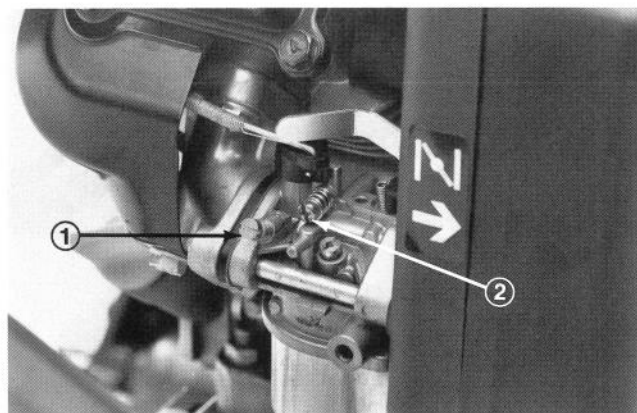

Figure 37
1. Pilot Screw (Fig. 37)- Close screw by gently rotating it clockwise.
5. Rotate carburetor adjusting screw (Fig. 37) clockwise to increase speed and counterclockwise to lower idle speed. Using a tachometer set speed to 800 rpm.